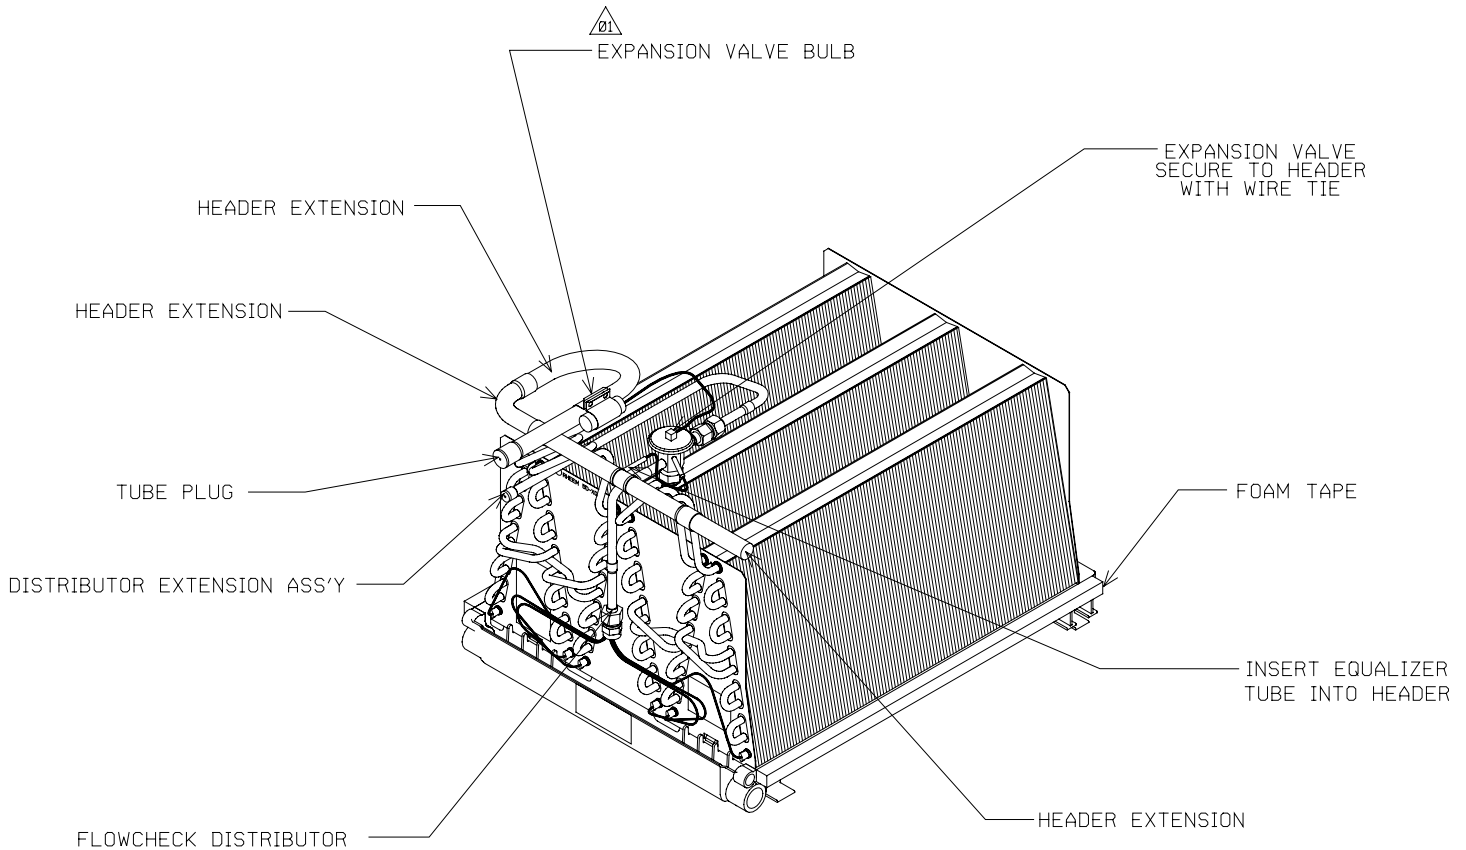

FIGURE 1. FRONT CONNECTION COIL
- A. A 3/16" diameter short tube is provided in the center of short header for installation of the 1/8" equalizer tube from the TX valve. See Figure 1.
- A. Attach expansion valve sensing bulb, with strap provided, to header extension as shown in Figure 1. Torque to 18 inch-lbs. Wrap bulb with insulation tape.